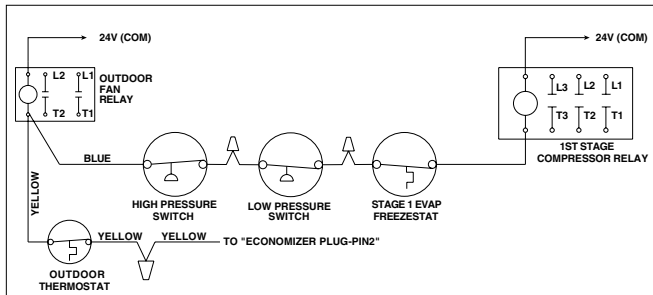

Figure 2a. R4GM-090* Factory Wiring
1. Remove “Blue” low voltage wire from outdoor fan 24V contactor coil. Cut off wire termination and strip wire approximately 3/8". Remove “Yellow” low voltage wire from outdoor fan 24V contactor coil, strip and terminate with closed end connector (provided) to eliminate the possibility of touching other electrical components (See Figure 2a).